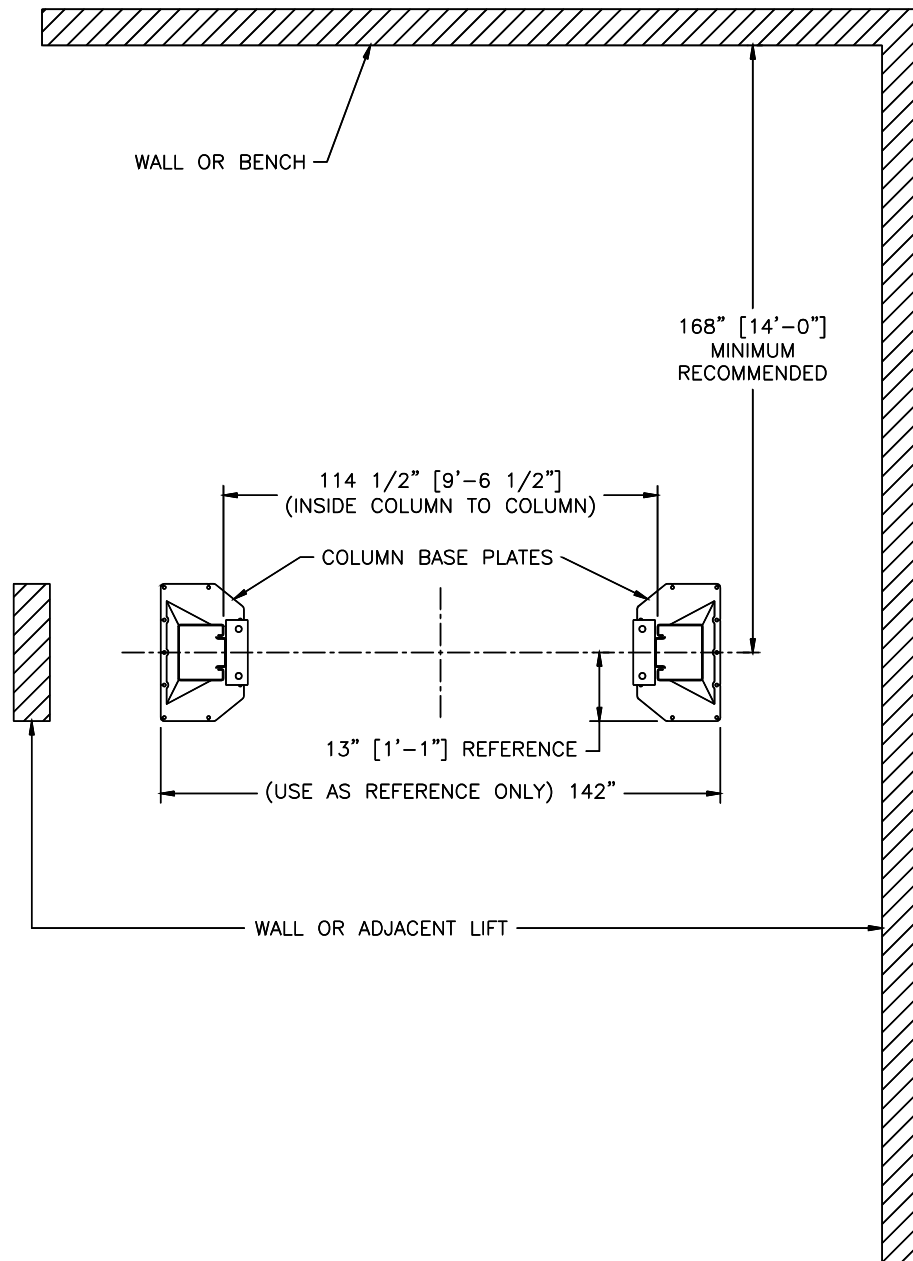

Figure 2
2. Layout the service bay according to the architect's plans or owner's instructions (see Fig 2). Be certain that the proper conditions exist per the section entitled ABefore You Install.